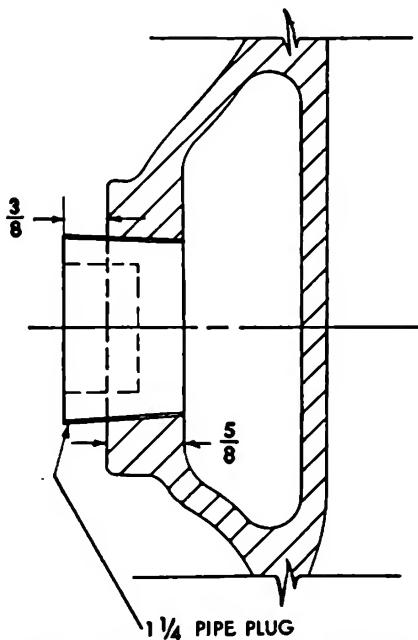

Fig. 2-26. Pipe plug installation
2. If not already in use, $1\frac{1}{4}$ " pipe plugs should be installed in the water header in place of the expansion plugs. (Exception: If wall thickness is less than $\frac{1}{2}$ ", expansion plugs must be used.) To install the pipe plugs it will be necessary to enlarge the hole with a $1\frac{1}{4}$ " American standard taper pipe reamer to the size of the plug counterbore and tap with a $1\frac{1}{4}$ " pipe tap deep enough so a $1\frac{1}{4}$ " countersunk pipe plug can be installed as shown in Fig. 2-26. A lead sealer should be used on the pipe plug threads.